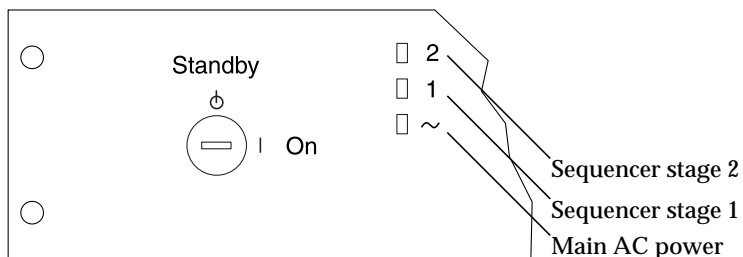

FIGURE 3-3 Front Sequencer Status Lights
6. Turn the key switch at the front of the expansion cabinet to the On position (FIGURE 3-3).